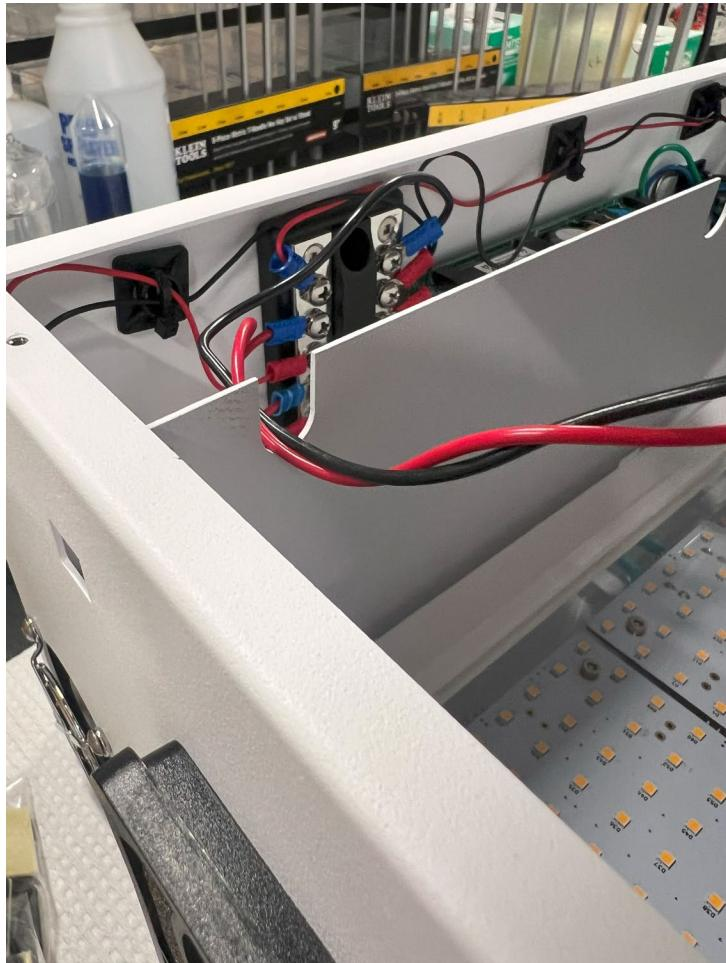

Figure 23: The power input wires from the ceiling LEDs inserted into the groove at the top of the bulkhead panel
6. Take the wires connecting the PCBs to the terminal bus and carefully push them into the gap at the top of the Bulkhead Panel as shown in Figure 23.